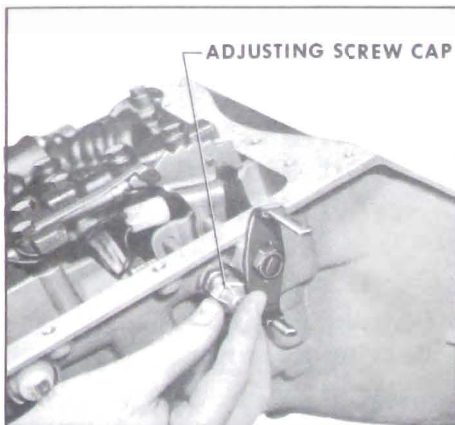

Figure 5-325
3. Install adjusting screw, cap. See Figure 5-325.